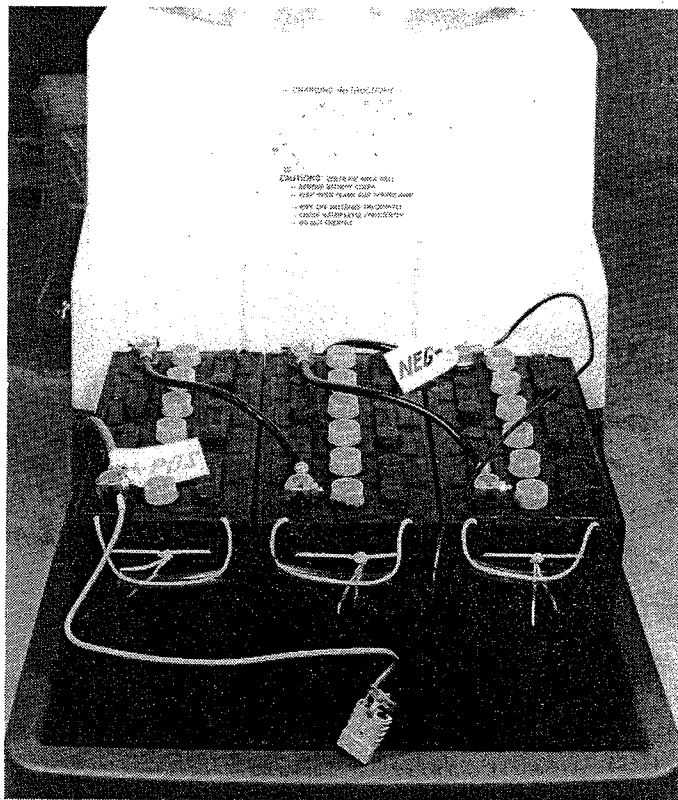

FIG. 2
1. Carefully lift the batteries and set them in the Concorde's battery compartment with all positive (+), terminal posts towards the front of the machine. (See Fig. 2.)
(See Fig. 2 for reference to proper wiring configuration.)